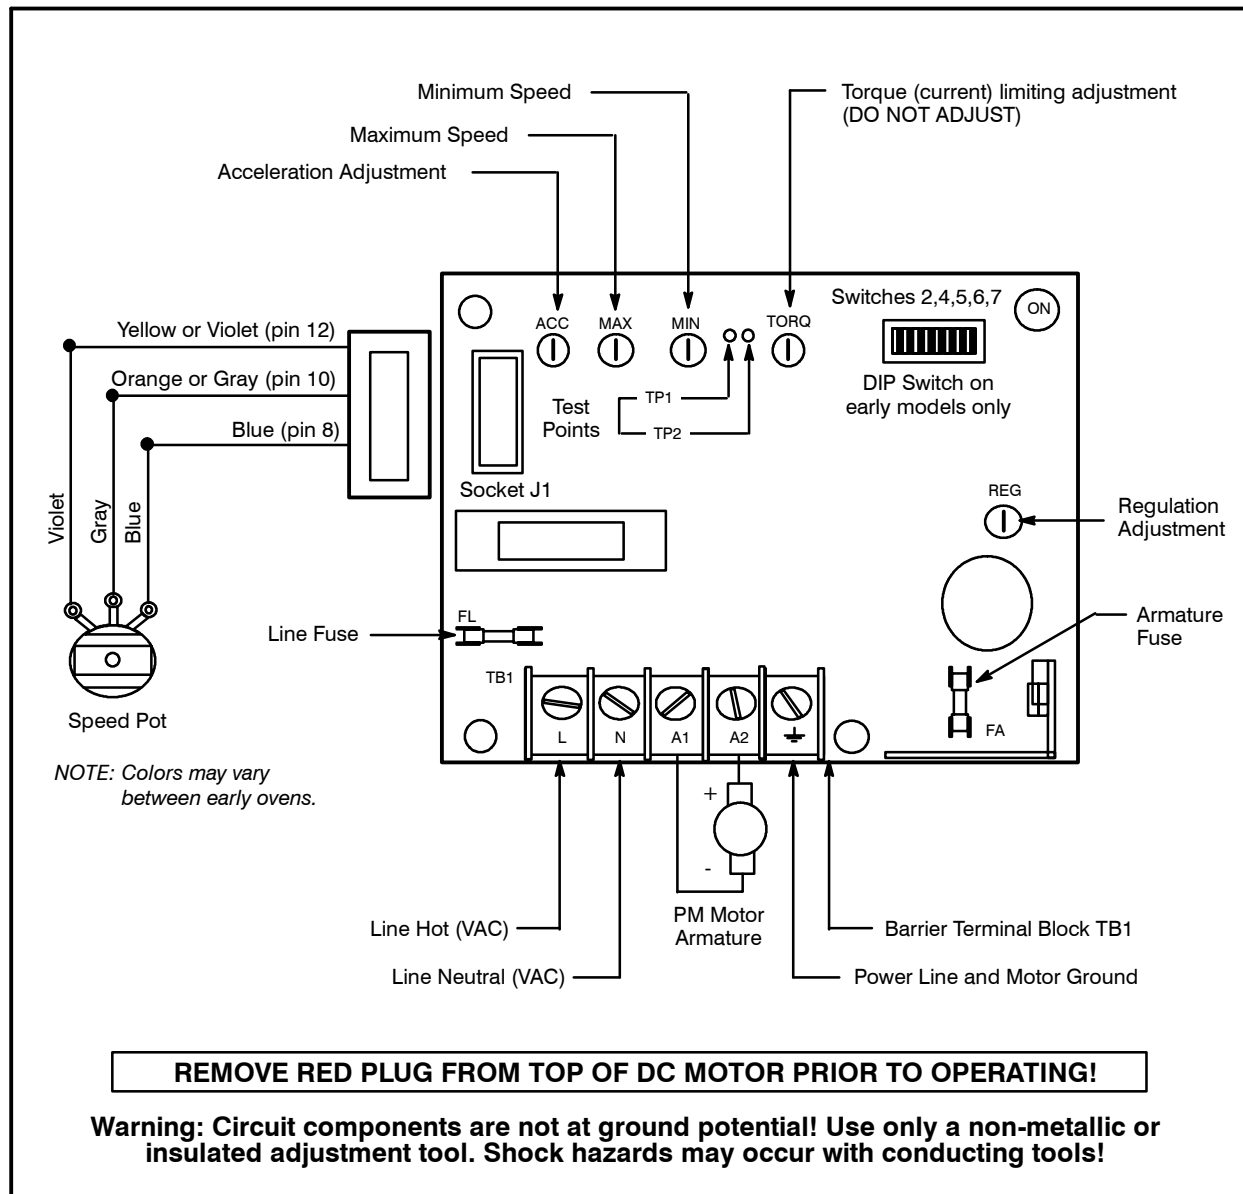

FIGURE 4
1. With the motor connected (make no open circuit voltage readings) measure the voltage at the motor leads (A1 & A2 in FIGURE 4) on the DC control board. If the voltage is not within 3 VDC of the specified voltage continue with step 3.
1. With the motor connected (make no open circuit voltage readings) measure the voltage at the motor leads on the DC control board (A1 & A2 in FIGURE 4). If the voltage is not 26VDC +/- 1 VDC, continue with step 3.